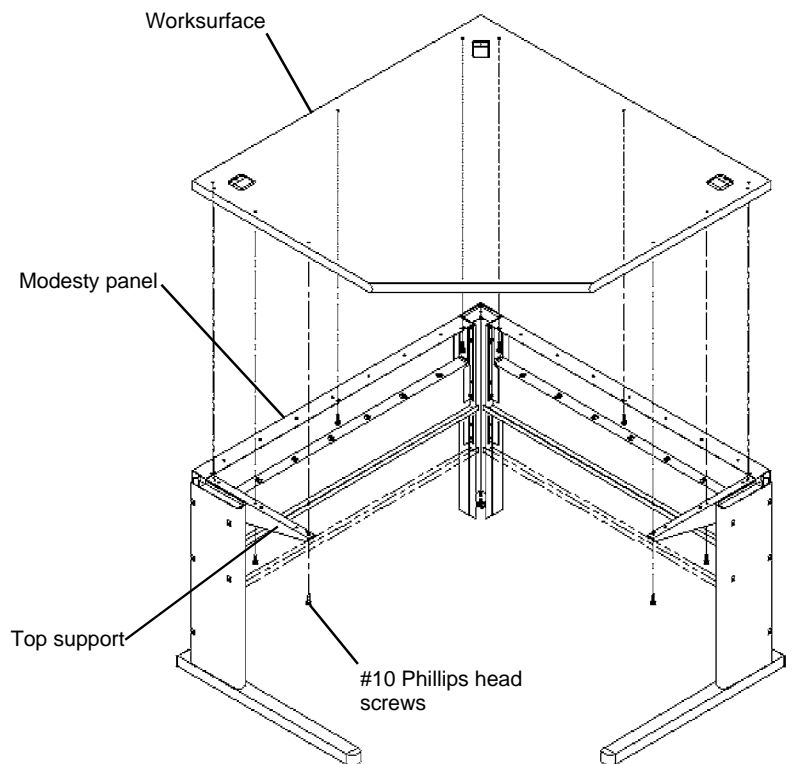

Figure 2
2. Place the Worksurface on top of the top supports. From underneath, align the holes in the top supports and the oval holes in the modesty panels with the pre-drilled holes in the bottom of the Worksurface. Fasten with the #10 Phillips head screws provided. See **Figure 2**.